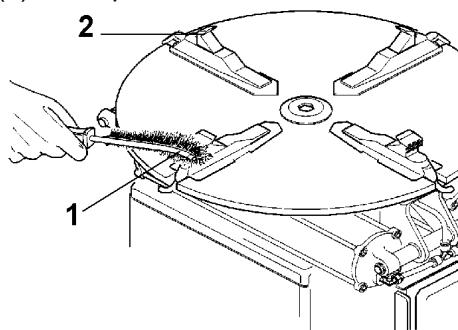

Fig. 6.0-2
- C. See Fig. 6.0-2. Weekly clean the teeth of the clamps (1) with a wire brush, check the nylon clamping jaw insert (2) and replace if worn.